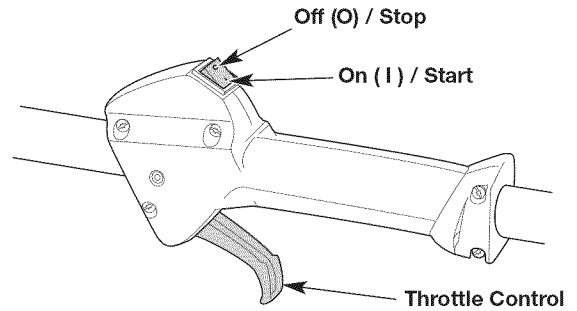

Fig. 7
**NOTE:** There is no need to turn the unit on. The On/Off switch is in the ON ( I ) position at all times (Fig. 7).
6. **DO NOT** squeeze the throttle control (Fig. 7). Pull the starter rope with a controlled and steady motion until the unit starts (Fig. 10).
2. Press and hold the On/Off switch in the OFF (O) position until the engine comes to a complete stop (Fig. 7).
6. **DO NOT** squeeze the throttle control (Fig. 7). Insert the Speed Start™ accessory into the Speed Start™ port (Fig. 21). Refer to the *Operation* section of the Speed Start™ accessory operator's manual.